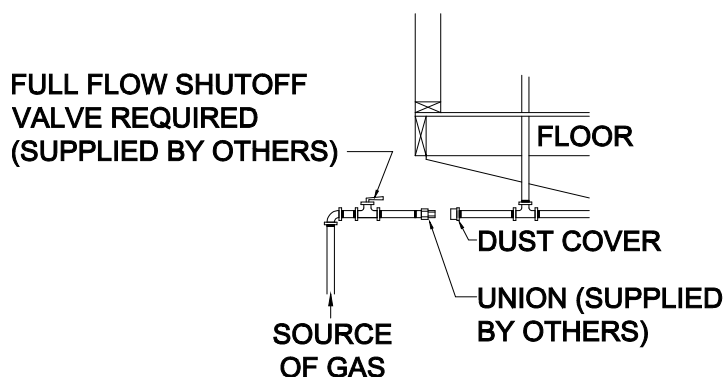

Figure 65. Gas service connection
3. **Remove cap.** Remove the protective cap from home inlet pipe and install a full flow shut-off valve at the supply inlet (**Figure 65**).